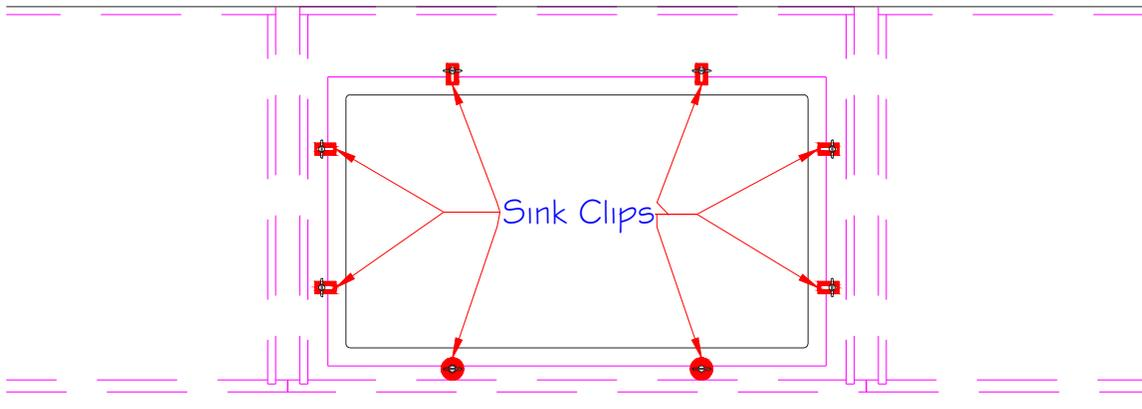

FIGURE 7
5. For 2cm and 3cm applications, undermount sinks must be secured to the underside of the Cambria countertop using sink clips. See Figure 7.